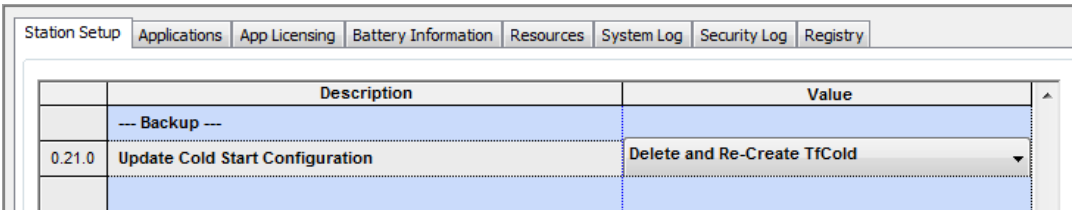

Figure 74: Backup
- 4. Scroll down to Backup (Figure 74).